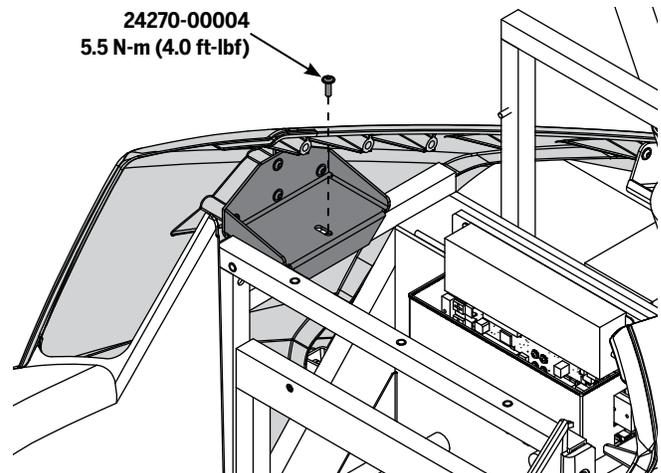

Figure 28: Bracket Fastener
5. Using a 4 mm hex wrench, remove the bracket fastener as shown in **Figure 28**.
6. Using a 4 mm hex wrench, install the bracket fastener as shown in **Figure 28**. Torque to **5.5 N-m (4.0 ft-lbf)**.